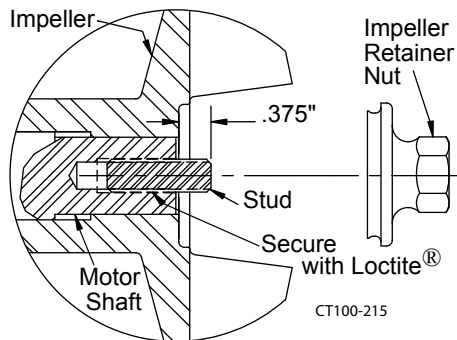

**Figure 31 - Clamp Impeller/Backplate to Motor Adapter**
4. Install the clamp and position the bolt/nut connection at 7 o'clock, allowing easy access to the front cover bolts. (Figure 31).